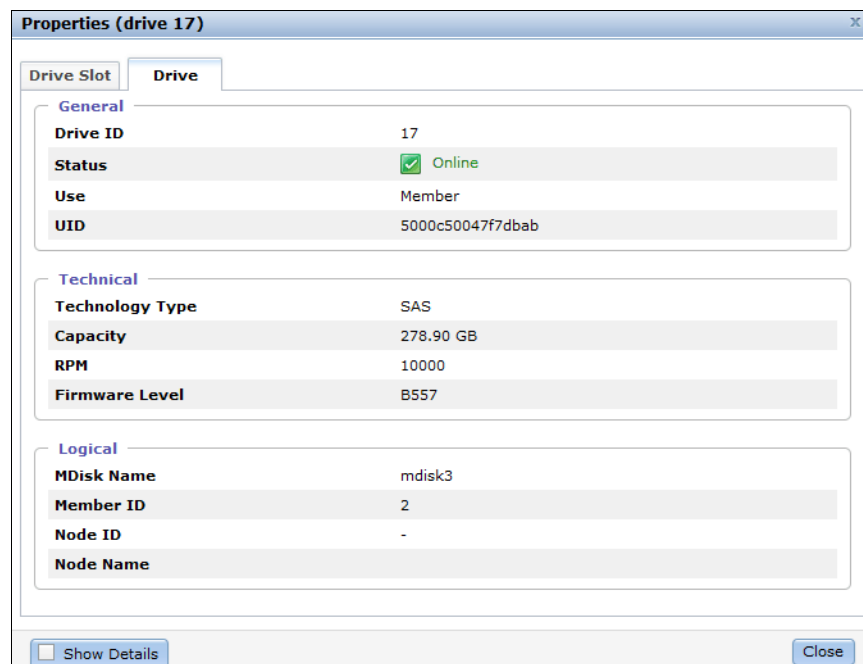

Figure 8-9 Properties tab with default format
- Clicking **Show Dependent Volumes** shows you the volumes that are dependent on the drives. Clicking **Properties** in the **Actions** drop-down menu, or double-clicking the drive, provides more information about the drives (Figure 8-9).